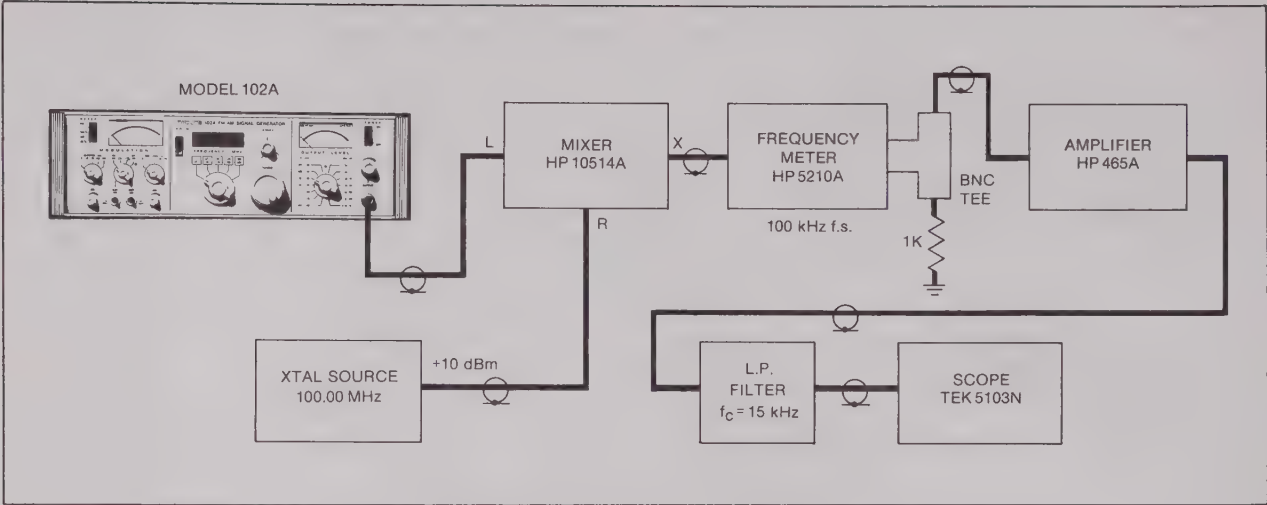

Figure 2-23 Incidental FM with AM Check, Test Setup
a. Connect the Model 102A and test equipment as shown in Figure 2-23.